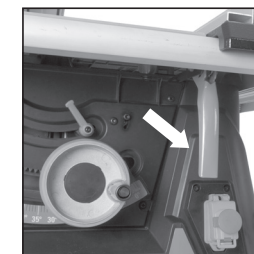

FIG. 26
- Pull up the table extension locking lever found just above the machines **ON/OFF** switch. (**Fig. 26**)